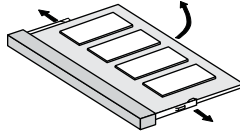

Figure 5 Removing the Memory Module
4. Using your thumbs, spread the Retaining Clips on either side of the Memory Socket outward until the Memory Module is released (**Figure 5**).